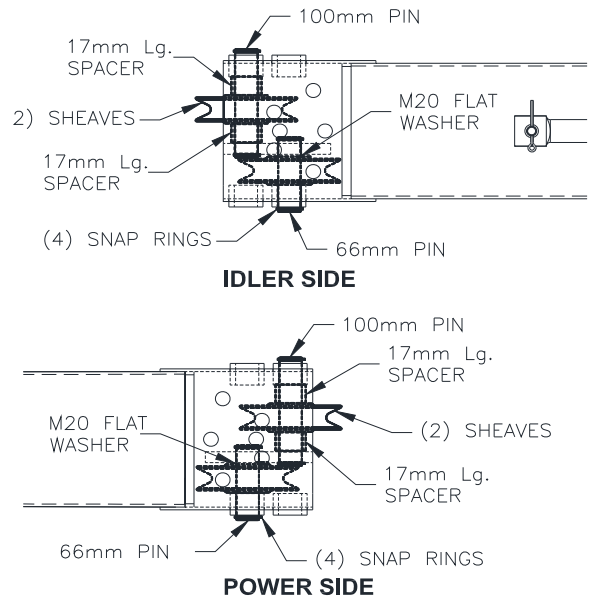

Fig 11 – Asymmetric Sheave Assembly
- 20) Disassemble sheave assemblies from each end. Assemble the cable sheaves, spacers, and pins as shown in **Fig 11** below as if viewing from underneath the lift. A flat washer should be placed between sheave and offset plate. **Note: The Sheave in the narrow section of the Power Side Overhead Beam should be installed after routing the sync cables.**